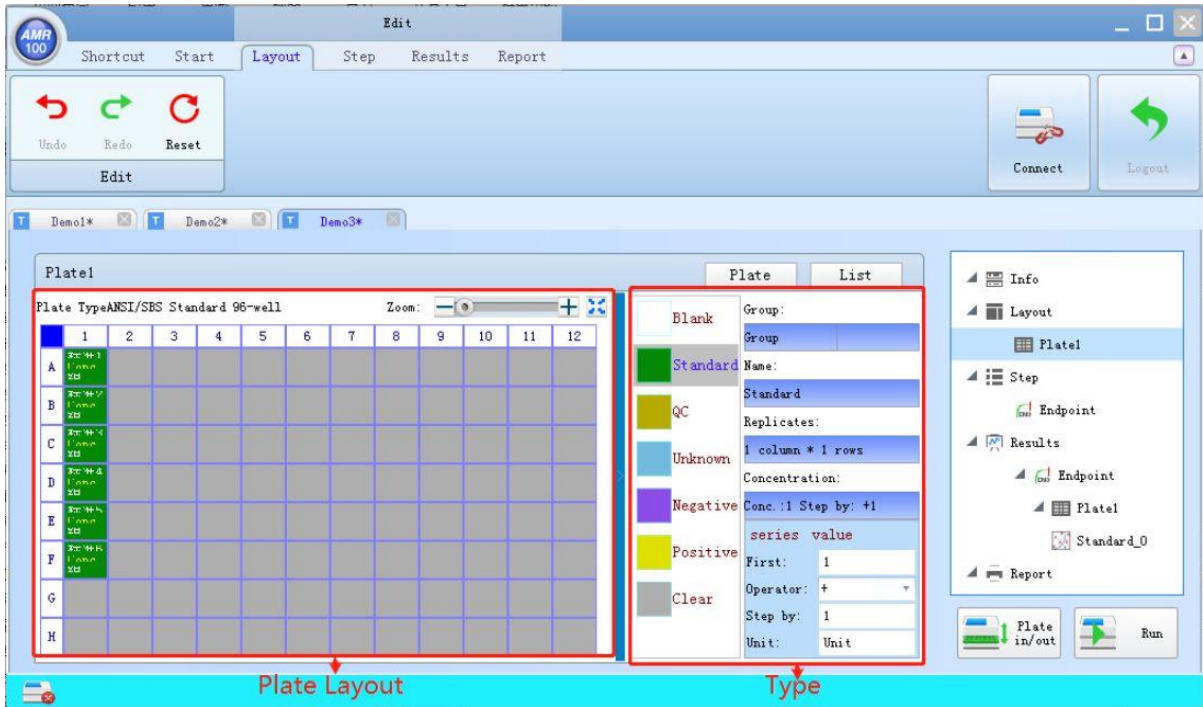

Fig 24
1) Plate layout interface is composed by two parts: "Plate Layout" and "Type"(as Fig 24). "Plate" button is for positions layout while "List" for protocol list and result list, see below Fig 25 and Fig 26.